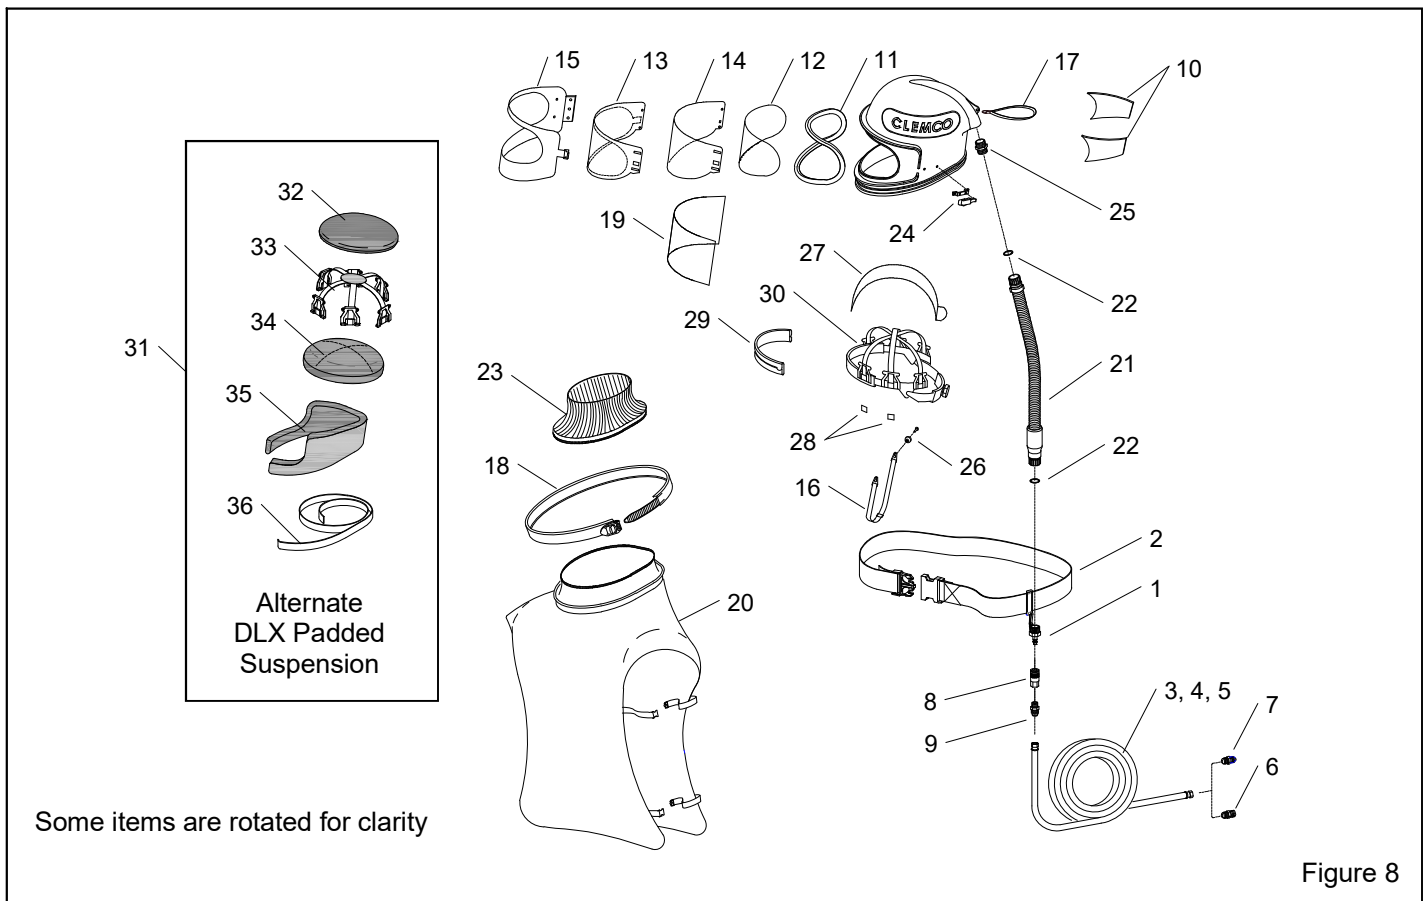

Figure 8
10.5 Respirator Replacement Parts, Figure 8